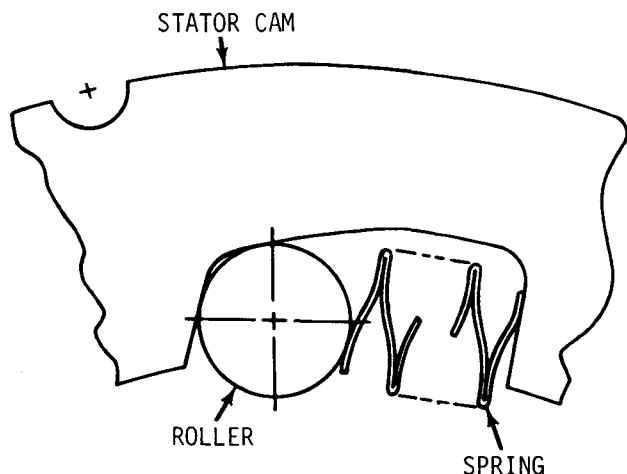

Fig. 6-10. Spring and roller positions in stator cam
(2) Coat the cam pockets in the stator cam with oil-soluble grease. Install ten rollers 6 (B, foldout 7) into the shallow ends of the cam pockets. Install the ten springs 7 into the deep ends of the pockets. Fig. 6-10 shows the proper positions of the rollers and springs in the stator cam.
(3) Install freewheel roller race 8 (B, foldout 7) into the stator assembly. Rotate the race clockwise while installing it. This will roll the rollers toward the deep ends of the cam pockets, allowing the race to enter the bore of the stator assembly.
(4) When the race is seated against the thrust bearing, twist it firmly to the left (counterclockwise) to lock it in place. Lay the assembled stator aside, roller race upward, until ready for installation into the transmission.